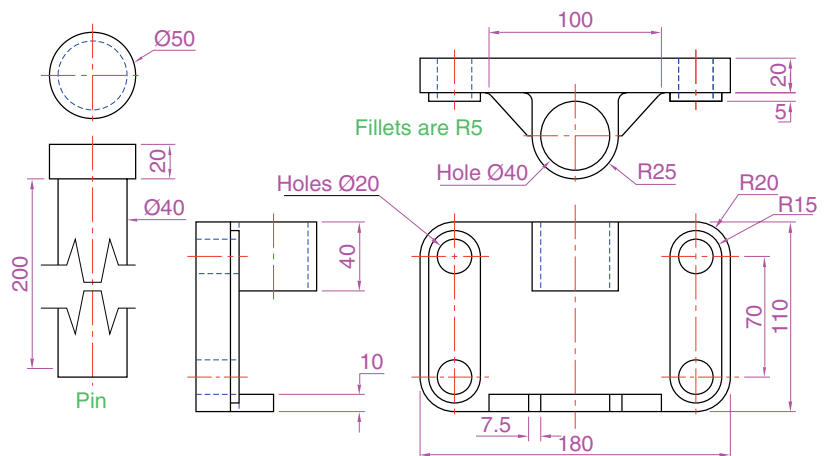

Fig. 18.20 First example 3D models – details of sizes and shapes
1. **3D Navigate/Front** view. Construct the three extrusions for the back panel and the two extruding panels to the details given in Fig. 18.20.